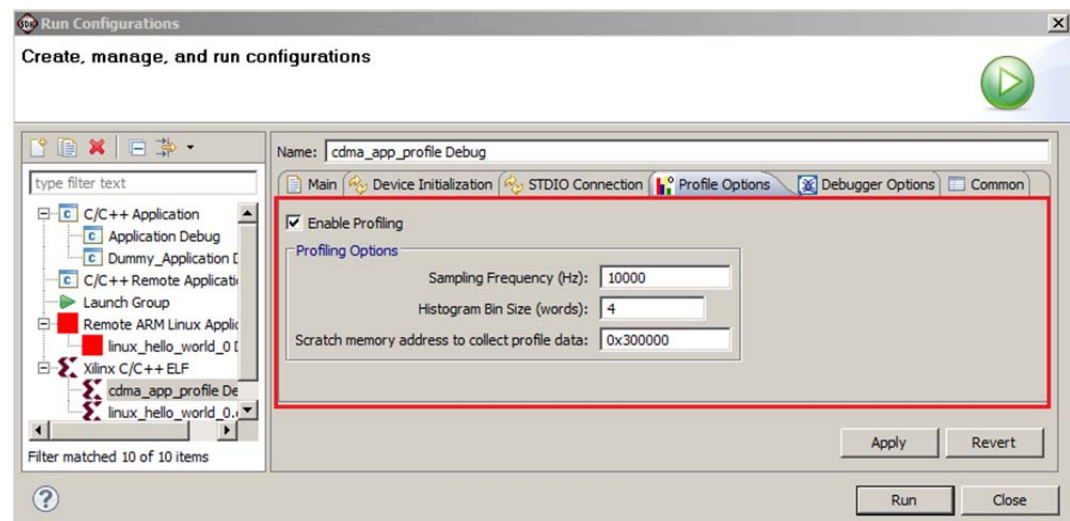

Figure 7-3: Enabling Profiling
6. Select the **Profile Options** tab and set the following parameters, as shown in Figure 7-3: